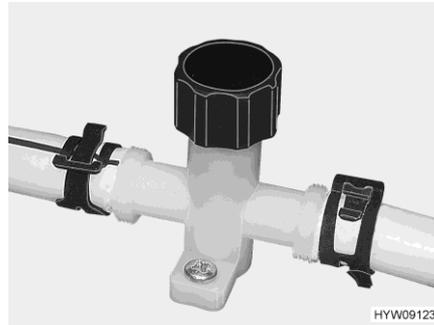
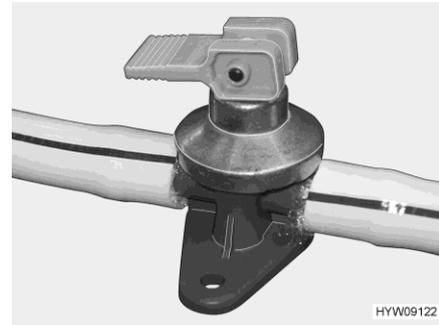

Fig. 170 Drain cock (water pipe)
Fig. 171 Drain cock (Alde boiler)
- Close the drain cocks. To do so, turn the cap (Fig. 170) in a clockwise direction and set the rocking lever (Fig. 171) in a horizontal position.
- Open the drain cocks. To do so, turn the cap (Fig. 170) in an anticlockwise direction and set the rocking lever (Fig. 171) in a vertical position.